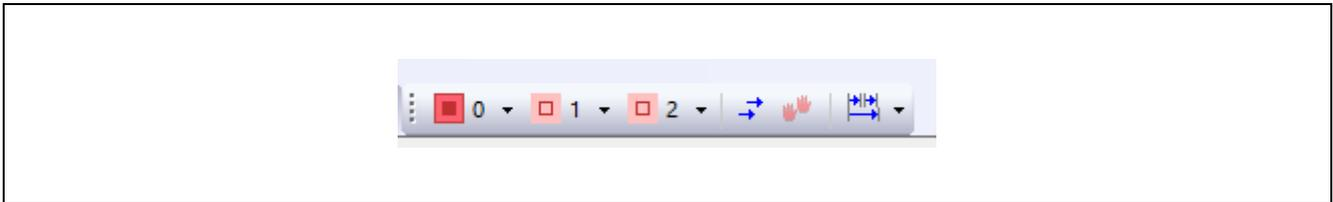

Figure 139. IAR EWARM Running Projects
12. (Flash boot) Click **Project > Debug without Downloading** the primary project to debug. Debug the projects according to the procedures in 5.3.5 Debug for Multiprocessing No. 4 and after. As shown in Figure 139, it is according to the setting in multicore_setup.xml. The primary project is 0, the secondary project is 1, and the tertiary project is 2.